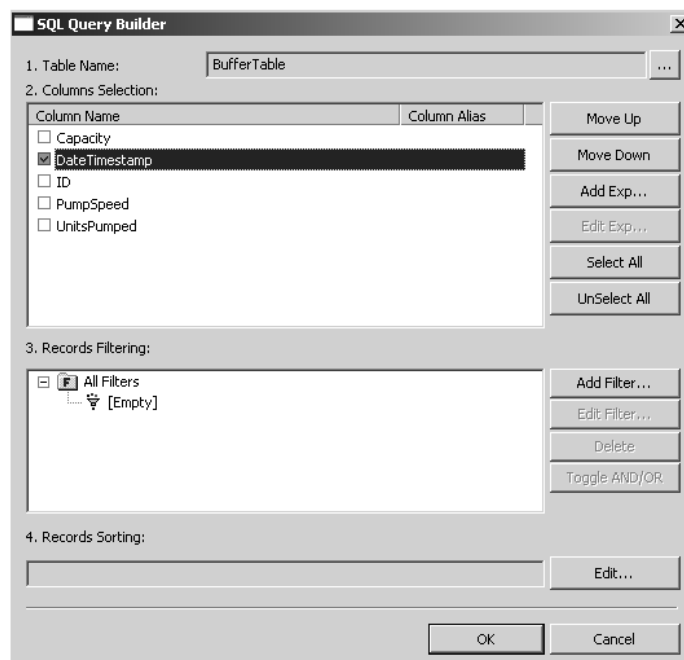

Figure L3.10 - SQL Query Builder
8. Then select the Column Name **DateTimestamp** as shown in Figure L3.10 and click OK. Click Apply